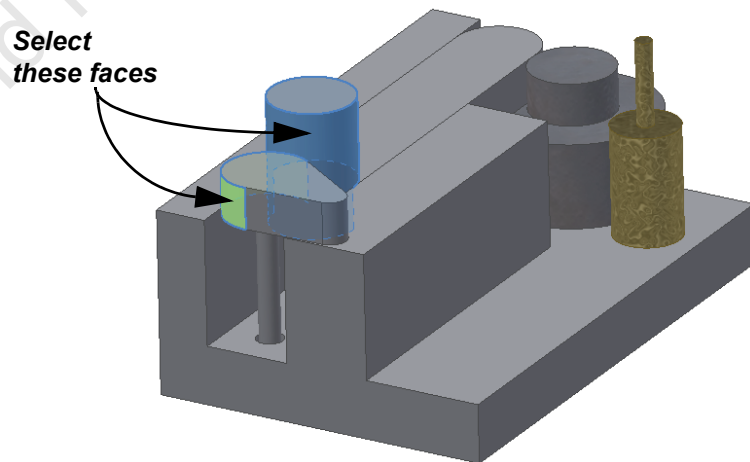

Figure 1-21
11. Place a  (Transitional) constraint between the cylindrical portion of the Slider arm and the round face of **trans_cam**, as shown in Figure 1-21. Select the cylinder first and a surface on **trans_cam** second. Click **OK**.